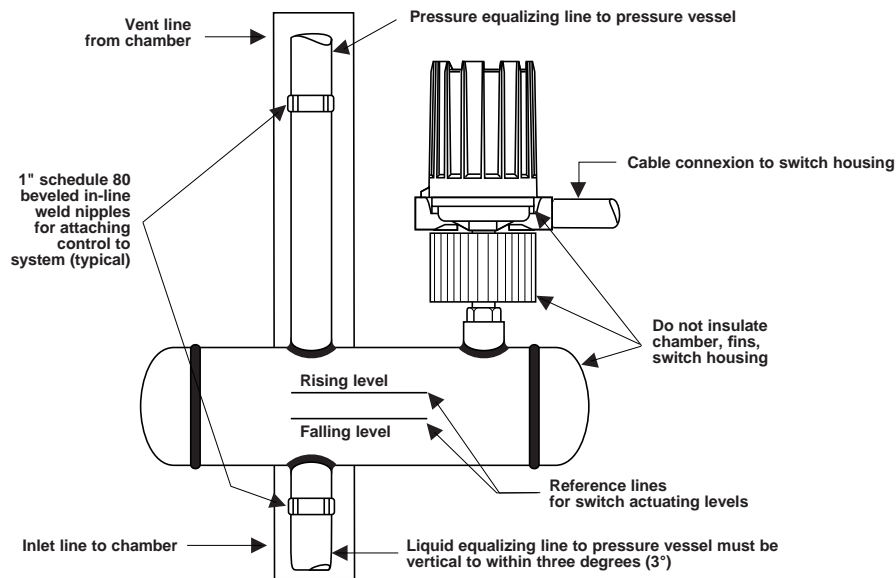

Figure 3
**Figure 3** shows a typical piping installation of a Model B40 in a pipeline to a pressure vessel. Reference lines, on float chamber, should be aligned to correspond with liquid level in the vessel at which switch control is desired (refer to dimensional drawing, if furnished).